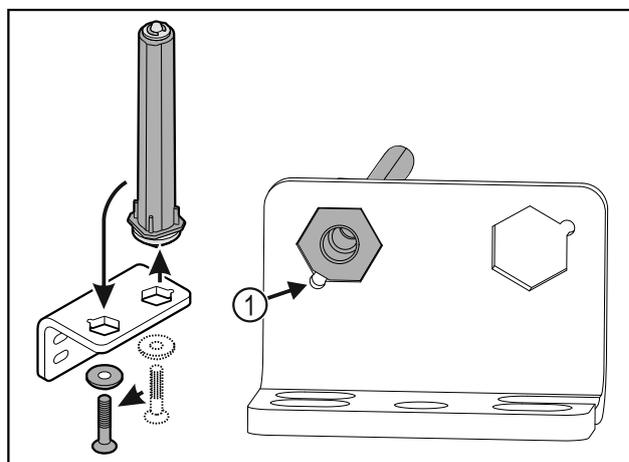

Fig. 27
- ▶ Make sure the pin chamfer Fig. 27 (1) faces the round hole when you put it in.